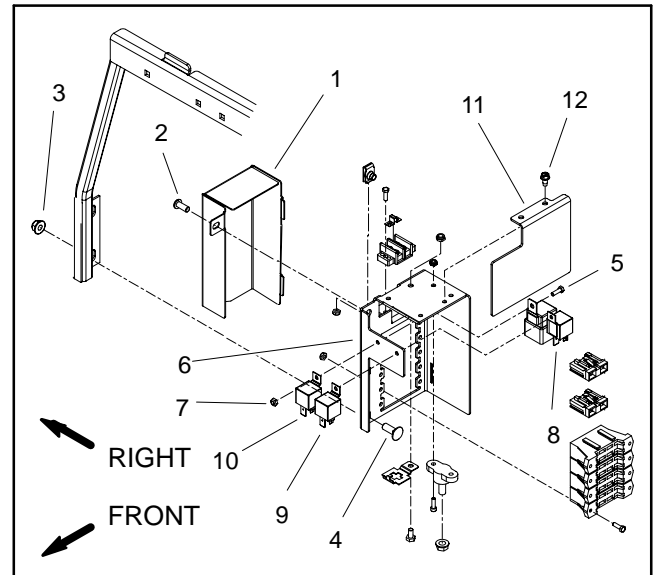
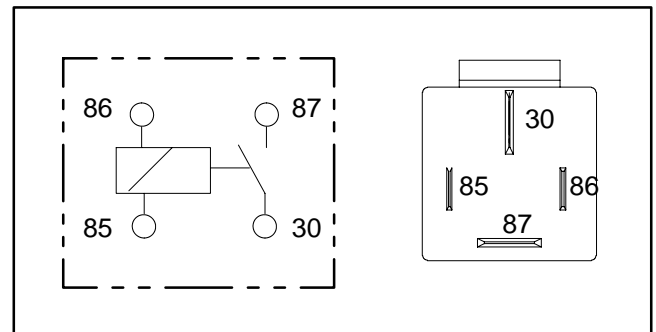

Figure 39
Figure 40
The main power, glow and operator cab power relays are located at the power center behind the operator seat (Fig. 39). The wire harness is attached to these relays with a four (4) wire connector (Fig. 40).